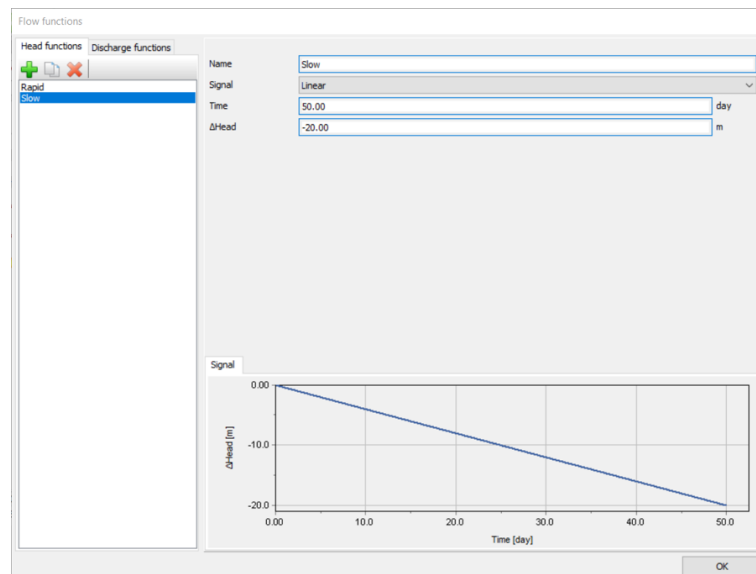

Figure 182: The flow function for the slow drawdown case
- e. Click **OK** to close the **Flow functions** window as shown in Figure 182 (on page 207).